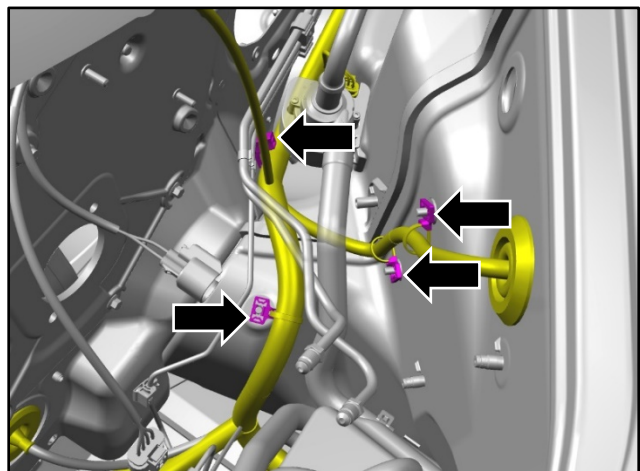

Figure 25
14. Install the wiring harness (refer to Figure 25).